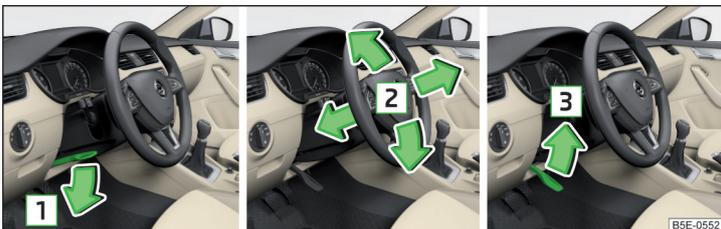

Fig. 3 Adjusting the steering wheel position
- › Swing the safety lever under the steering wheel in the direction of arrow **1** » Fig. 3.